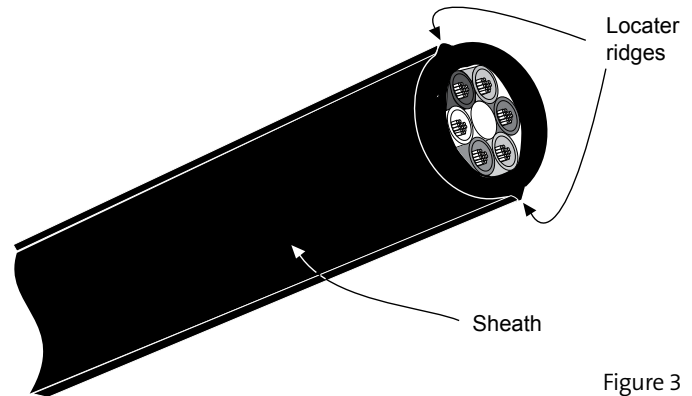

Figure 3
Step 4: At the end of the cable, locate the locator ridges which indicate the cable sheath's FastAccess® Technology features. These features appear as small longitudinal ridges on the cable sheath and are located 180 degrees from each other (Figure 3).